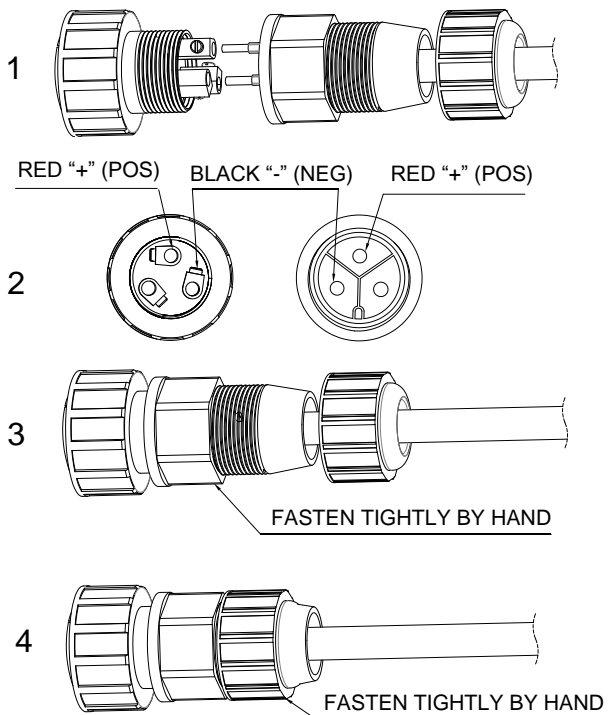

Figure 5
Step 7: Connect the PoE midspan input connector to a minimum 4 Amps rated input cable, make sure to assemble the inlet connector as shown in figure 5.
- The power connector supplied with the PoE Midspan has 3 terminals; '+' (POS), '-' (NEG), and one which is not connected (See Figure5).
- Assemble the inlet connector as shown at Figure 5